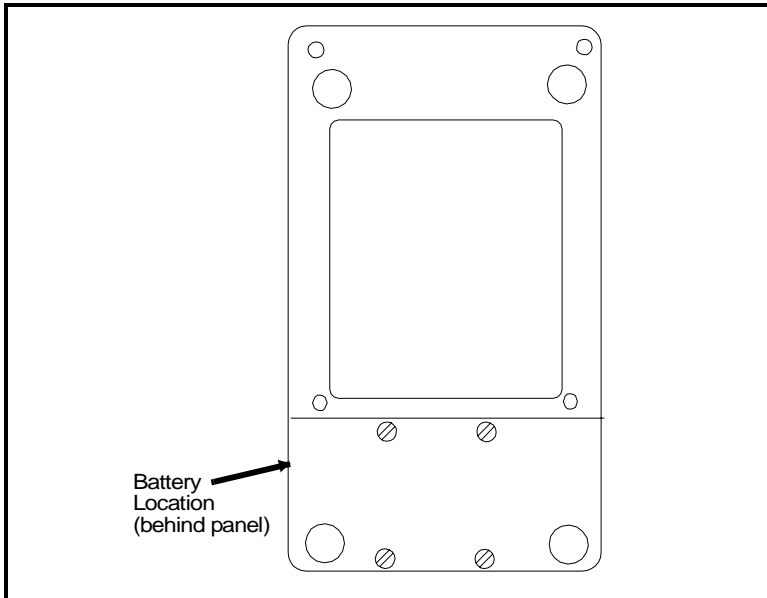

Figure 8-12: NiMH Battery Location
2. Remove the four thumb screws on the back panel of the PM880 that secure the NiMH battery pack. Lift the battery pack out of the unit. See Figure 8-12 below.